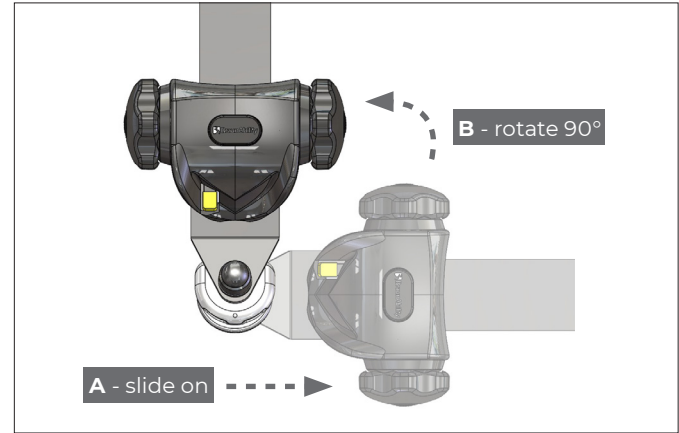

Figure 10
3. Install each front retractor clear onto a front Solo anchor (sprung or fixed) by aligning the open mouth of the cleat, (Fig. 11B), and the protrusion, (Fig. 11A), to the slot on the floor anchor. Slide the cleat fully home (allowing the keyway within the cleat to guide into its home position, Fig. 10A & 10B) and rotate the cleat through 90° to align the retractor with the wheelchair frame, (Fig. 10).
2. Remove each Quattro Solo from the anchor by rotating the tie-down through 90° so that the raised protrusion on the cleat is aligned with the indent on the floor anchors (Fig. 10). Slide off.